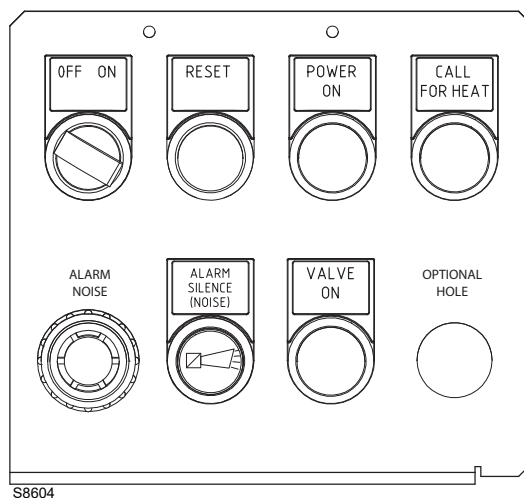

Fig. 23
- Electric voltage is available (indicator light **POWER ON** must be on) (Fig. 23).
- Turn the “ON/OFF” selector (Fig. 23) to “ON” and make sure that there is a heat request (thermostat on ON).
Key (Fig. 23)